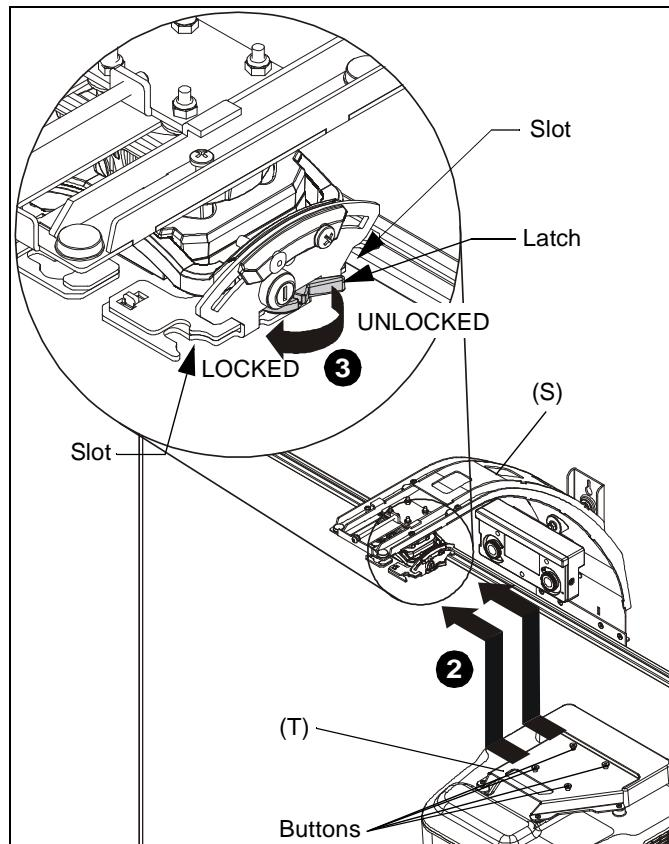

Figure 11
NOTE: Make sure projector mount is in UNLOCKED position and remove key from projector mount. (See Figure 11) Lift projector with attached interface (T) and slide buttons on interface into slots on boom projector mount (S). (See Figure 11)
2. Slide latch to LOCKED position to lock projector in place. (See Figure 11)